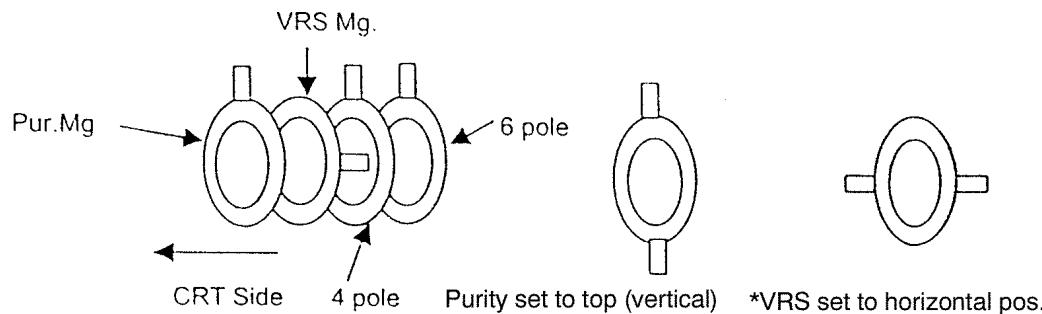

FIG 1.
- Set CY to CRT and set CY magnet primarily (Fig. 1)